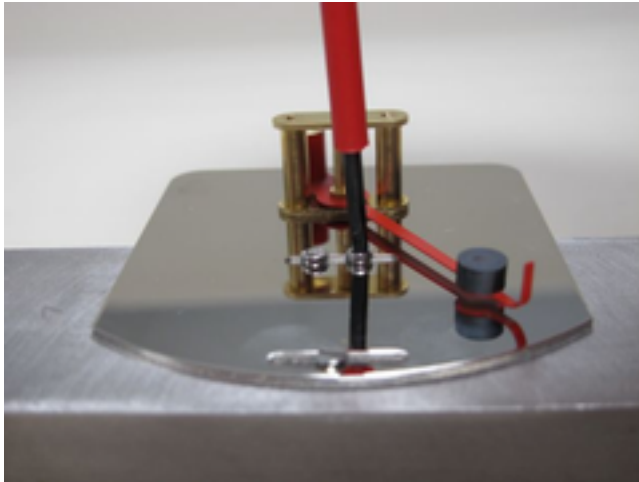

Fig. 73: Secure the base plate
- 15.** Position the display base plate on the device body and lightly tighten the mounting screws, so that the base can still move. (*Fig. 73*). Make sure that the countersunk head screw is used for the long groove (pointer tip end) and the two (2) cylinder head screws are used for the base center.